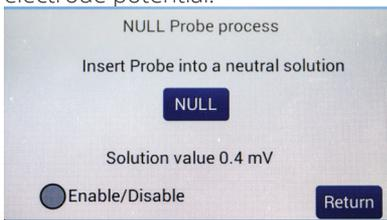

Fig. 52—(Left) Null probe process.
- To calibrate (zero) the electrodes' galvanic charge in saline, place the electrodes in a saline solution, and press the **Probe Null** button. A popup message displays (Fig. 52). Push the **NULL** button. Wait for the second message stating "Solution value 0.0" before pressing the **Return** button. This action removes any voltage offsets on the electrodes. Then, activate the **Enable/Disable** radio button to offset the electrode potential.